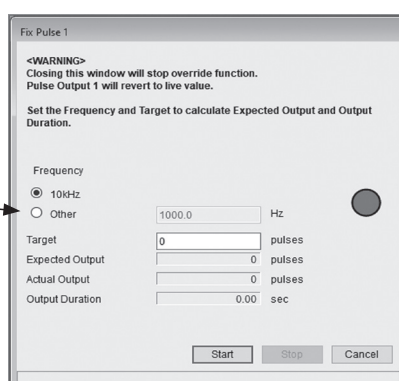
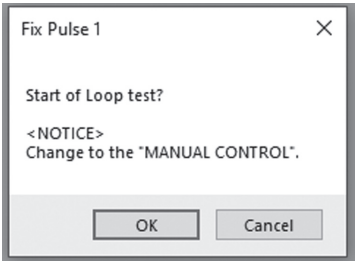

Fig.127
Fig.128
- ② The following window will be displayed (Fig. 127). Select the simulated output value and click the "Start" button. To pick another pulse frequency to output, select "Other" and click the "Start" button after inputting the pulse frequency.
- ③ The number of simulated output pulses can be set in "Target." "0" indicates continuous output. The expected number of outputs is displayed in "Expected Output." (The expected number obtained by calculation may be different from the value set in "Target," but it is not abnormal.) The approximate output duration is displayed in "Output Duration."
- ④ Click the "Start" button to display a message box (Fig. 128). Click the "OK" button to start "Fix Pulse". Click the "Cancel" button to return to the window shown in Fig. 127.
- ⑦ Clicking the "OK" button would return the interface to the window shown in Fig. 127, so click the "Cancel" button to exit "Fix Pulse".